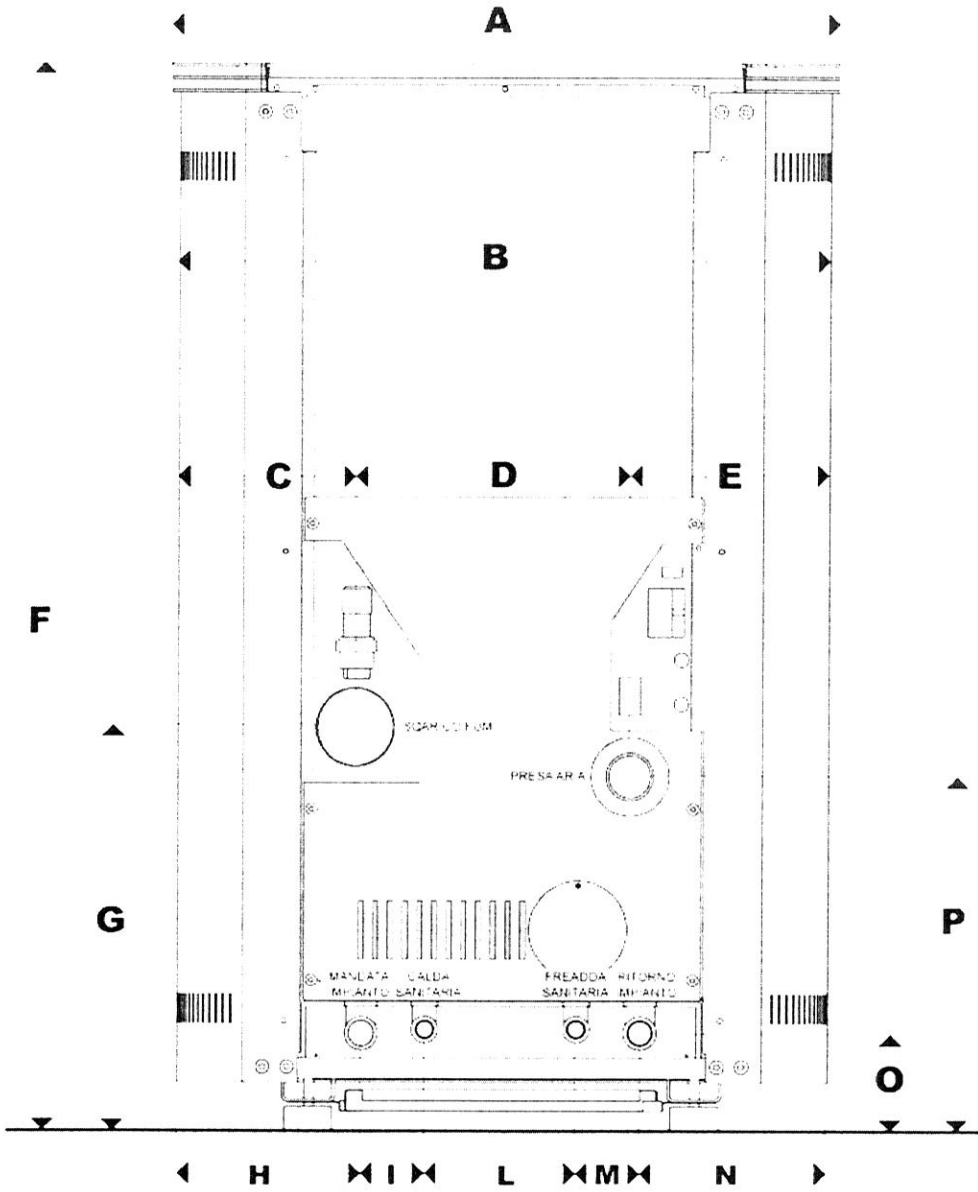

fig. 4
Referring to fig. 4 and tab. 1, drill a hole in the wall ( $\varnothing$  80mm) in order to insert the smoke release pipe forseeing the installation of a connecting T with inspection cap, cover with a chimney pot to protect from rain.
The thermostove can also be connected to existing chimney that has a 130 mm diameter. Drill a hole in the wall ( $\varnothing$  80mm) and insert the smoke release pipe at a height from floor as shown in fig.4. After having connected the thermostove to chimney, hermetically seal space between hole in the wall and pipe release route.
- Referring to fig.4-tab.1, drill a 7 cm hole in wall for aspiration pipe for external air.